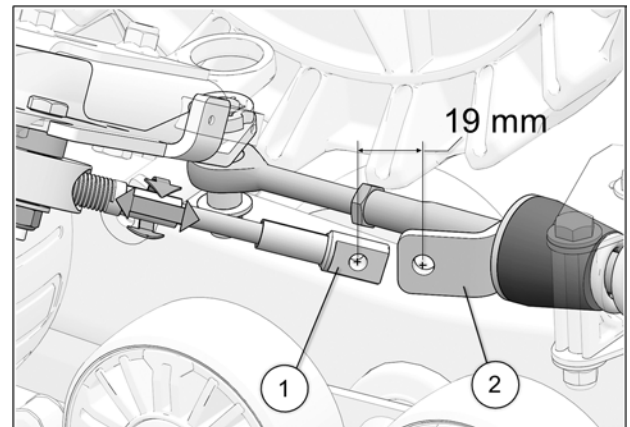

Fig. 27
15. Turn the vehicle's steering wheel to its maximum point of travel on the left. While maintaining pressure on the steering wheel, turn threaded rod to adjust length of cable. See Fig. 27
16. Position cable end hole (1) 19 mm [$\frac{3}{4}$ in.] short of support plate (2) mounting hole. See Fig. 27